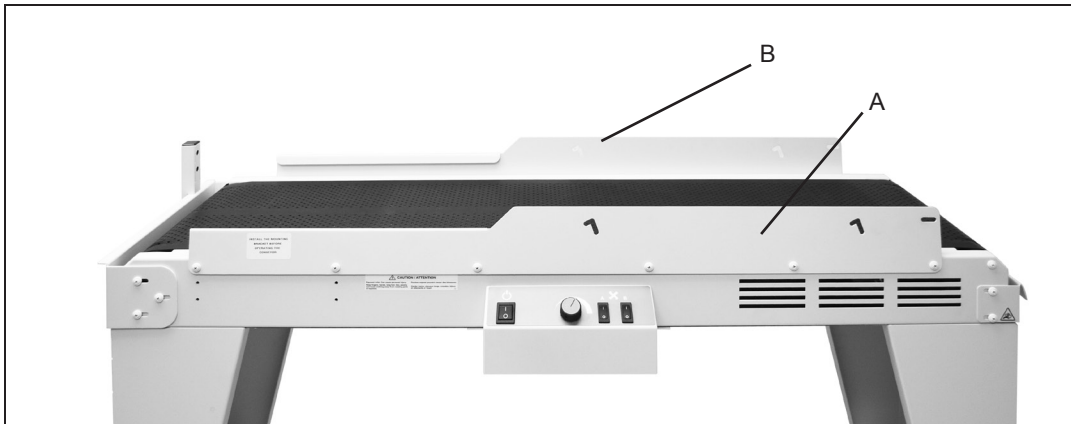
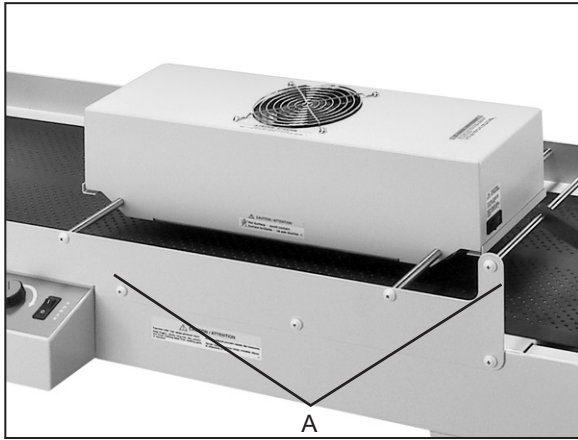
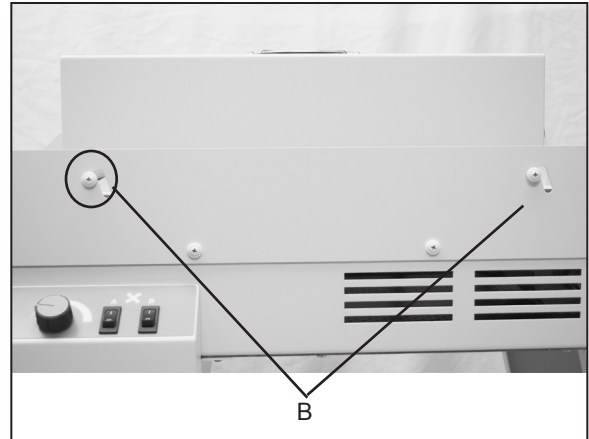

Fig 9
Fig 14a
Fig 14b
5. Mount the side rails to either side of the conveyor with 6 each white Phillips head machine screws provided in accessory bag. The taller side goes on the out-feed end (Fig 9 items A & B). Note: If the optional D1000 1K dryer is going to be attached leave the side rail screws loose for mounting the dryer.
1. Slide mounting rods through holes in dryer (Fig 14a item A).
3. Loosen side rails (Fig 9 items A & B pg 6), place dryer and rods between rails of conveyor (Fig 14a item A), align with mounting slots in high or low position (Fig 14b item B) and secure in place with the 4 white Phillips head screws supplied. **Note:** Mounting rods, screws and electric components supplied in dryer box.